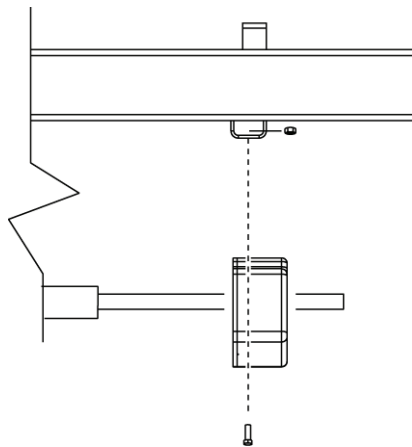

Figure 8
- A. Using a 1/4" drive ratchet and 5/16" socket, connect two #10-18 X 1/2 self-tapping screws through the holes in the overhead switch assembly into the overhead beam as shown in Figure 8.